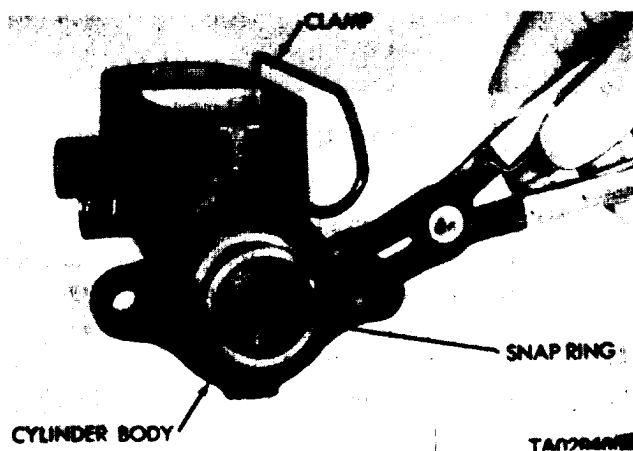

Figure 22-4. Removing Snapping.
(4) Slide the clamp off the cover and remove the cover and gasket, then drain the brake fluid from the cylinder.
(5) Remove the snapping from the open end of the cylinder, using snapping pliers (figure 22-4).